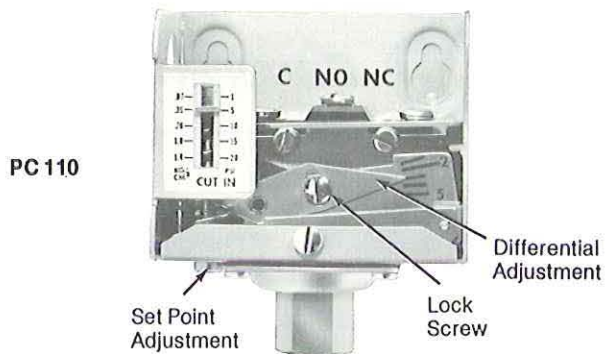

Figure 5
PC-151 is factory set and no field adjustments can be made. PC-110 and PC-141: The adjustment of the set-point screw (Figures 5 and 7) establishes the control operating point on a pressure increase when used as a N.C. switch, or on a pressure decrease when used as a N.O. switch, and is indicated by the pointer of the graduated scale.
1. PC-110: Refer to Figure 5. Turn the adjuster with a screwdriver to move the indicator to the required setting on the scale. To change the differential from the 2 psi factory setting, loosen the lock screw and set the pointer at the required differential. Secure the lock screw.